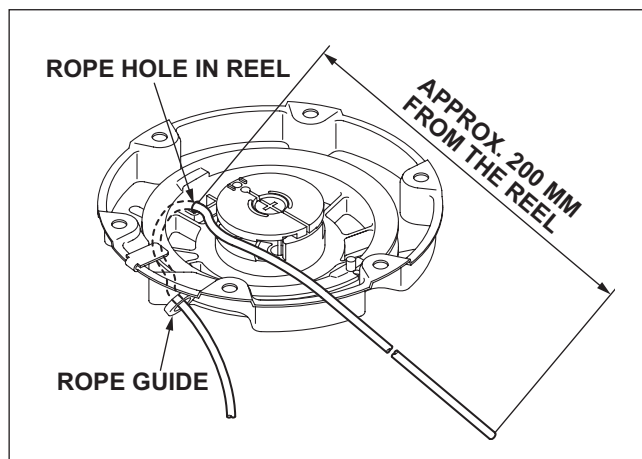

Fig. 14-7
(4) Tension the reel spring
- 2 Fix the reel so that the rope hole in the reel is aligned with the rope guide. (Fig. 14-7)
(Fig. 14-7)